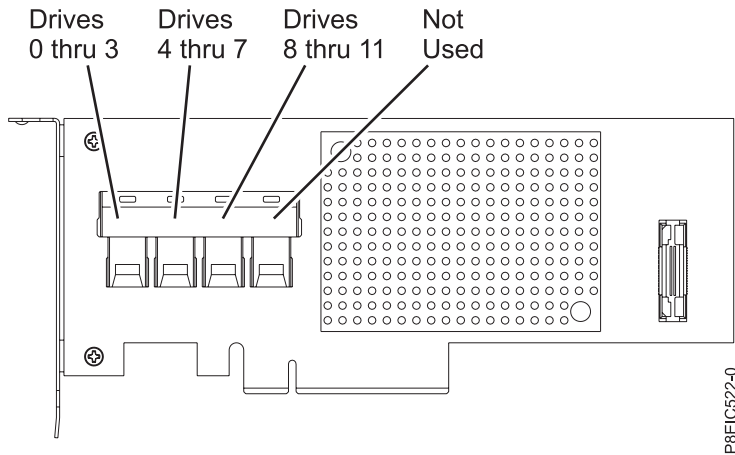

Figure 46. Cabling the PCIe3 low profile 6 Gb SAS/SATA RAID adapter (FC EC3Y - PMC 71605E)
- a. Connect the signal cables for the disk drive to the RAID adapter before installing the adapter. See Figure 46 on page 41.